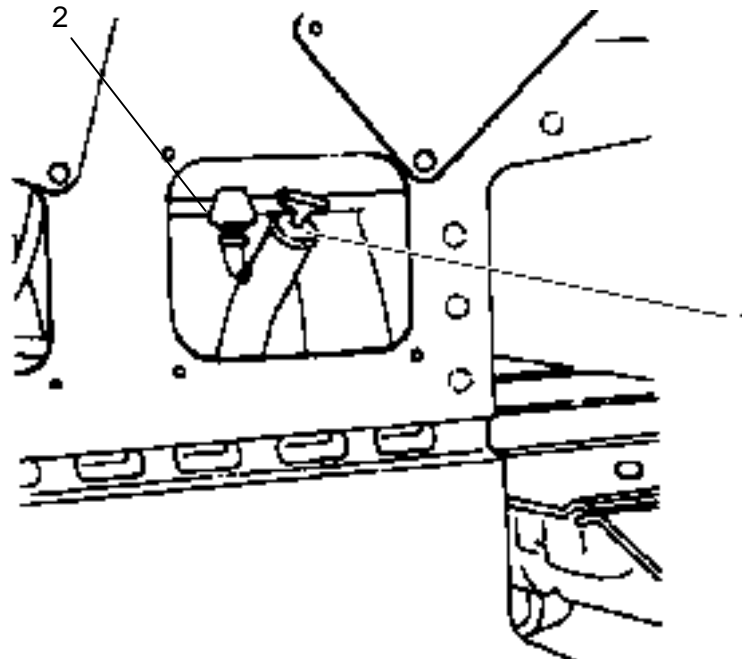

Fig. 5.43. Rear Main Frame Oil Level
## 5.18.1. CHECKING THE OIL LEVEL IN REAR MAIN FRAME (Fig. 5.43)
2. Remove the oil dipstick with the cover. Drain out the used oil and pour lubricant into the rear frame through the filler tube (Fig. 5.43) to bring the level up to the FULL mark on the dipstick.